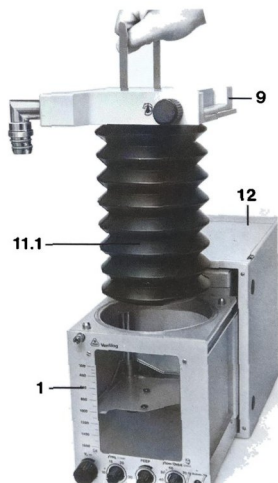

Fig. 3 Ventilog with bellows E (for adults)
Figs. 3 and 4:
- 1) A slide-in unit 1 (Fig. 3)
- 2) A patient system 9 (Fig. 3)
- 3) Ventilog housing 12 (Fig. 3)